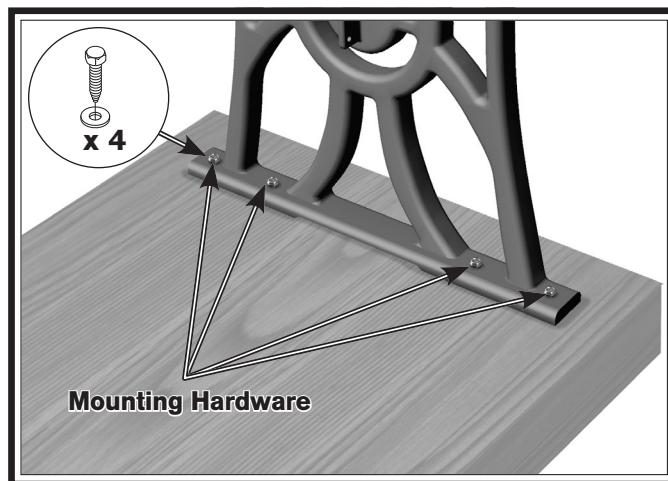

Figure 4. Securing leg to bench top.
4. Use your chosen hardware to secure the leg to the bench top, as shown in **Figure 4**.